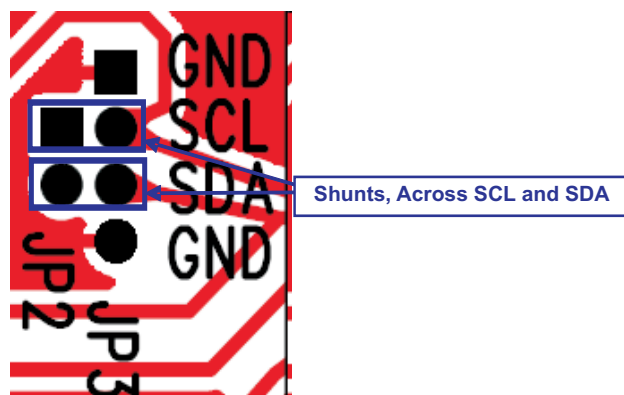

Figure 3. Place Shunts Horizontally Across SCL and SDA
3. Install shunts in JP2 and JP3 as shown in Figure 3. This sets the TPA2050D4 to accept I²C inputs from the EVM itself.